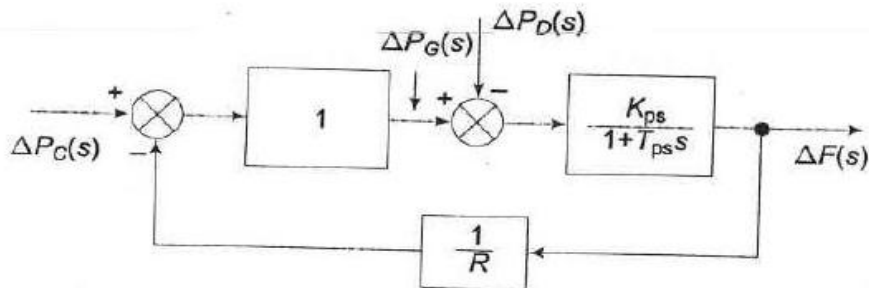

Fig: 8.5. First order approximate block diagram of load frequency control of an isolated area
**First order approximation block diagram:** Letting  $T_{sg} = T_t = 0$  Sec and  $K_{sg} \cdot K_t = 1$ , complete block diagram of single area system reduces to the Figure 8.5.